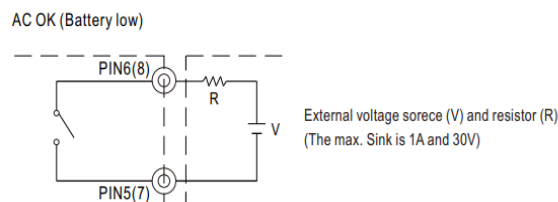

Fig 2.2 Internal circuit of AC OK (Battery Low), via relay contact
(1) Alarm Signal is sent out through "AC OK" & " Battery Low " pins via relay contact.
(2) An external voltage source is required for this function. The maximum applied voltage is 30V and the maximum sink current is 1A. Please refer to Fig 2.2.
(3) Table 2.1 explains the alarm function built in the power supply
(4) AC OK signal (RL1,referring to Block Diagram) will go into hiccup mode when the overload protection is activated.